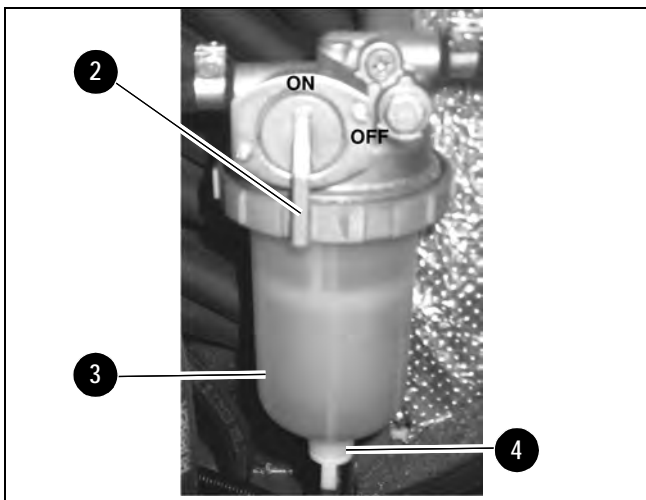

Figure 4-8 Fuel Shut-off Valve and Water Separator
If water is seen in the plastic water separator bowl or the indicator ring rises to position (3), the water will need to be drained. See Figure 4-8.
2. Twist the fuel shut-off valve lever (2, Figure 4-8) on the water separator clockwise to the “OFF” position.
2. Make sure that the valve on the water separator (2, Figure 4-8) is in the “open” (ON) position.
3. Turn the ignition key to the “I” (ON) position.